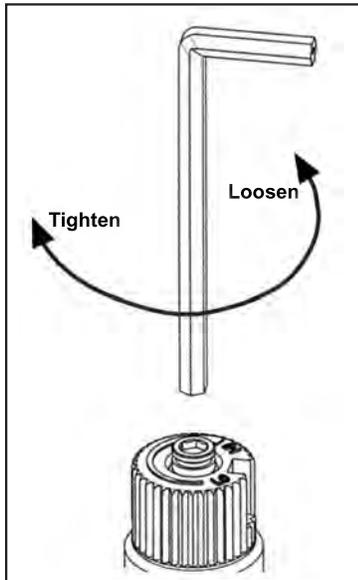

Figure 9: Removing valve screw.
b) Insert a $\frac{5}{32}$ " or 4 mm Allen wrench into the hexagonal key-way of the screw (see Figure 9), rotate it counter-clockwise until it is free and extract it.
e) Using the Allen wrench as shown in Figure 9, rotate the screw clockwise until a torque of 9 inch lbs. **WARNING!** Do not over tighten the screw. It is recommended that you grip the wrench by the short side.